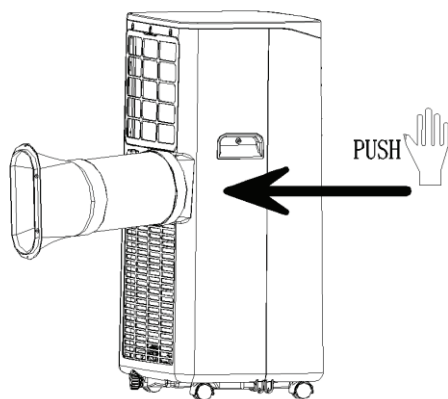

Fig.1
1.1 Install the heat pipe assembly (as shown in Fig.1): screw the heat pipe assembly (exhaust fitting end) into the exhaust port on the rear panel.